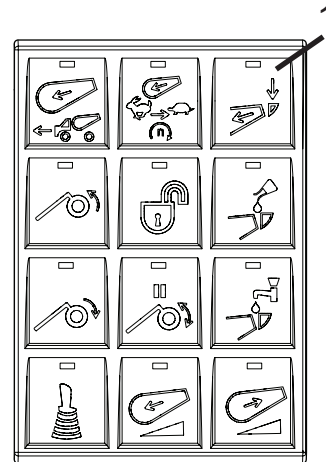

Figure 42
4. Press the LOAD button on the optional in-cab keypad (Figure 42, Item 1). The button indicator will illuminate. The LOAD icon will display on the drum control on the touch screen monitor.